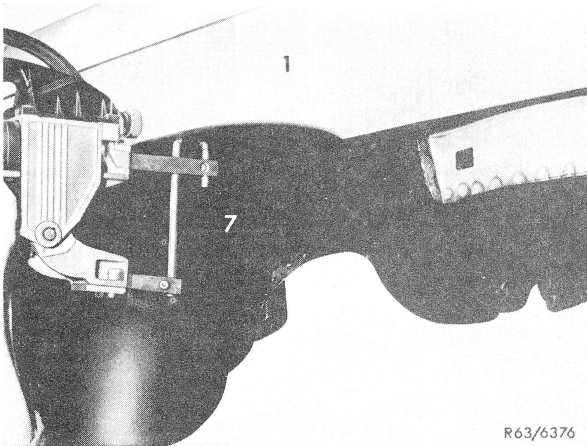

Fig. 7
27 Spot weld rear fender (1) to wheel housing (7) (Fig. 7).